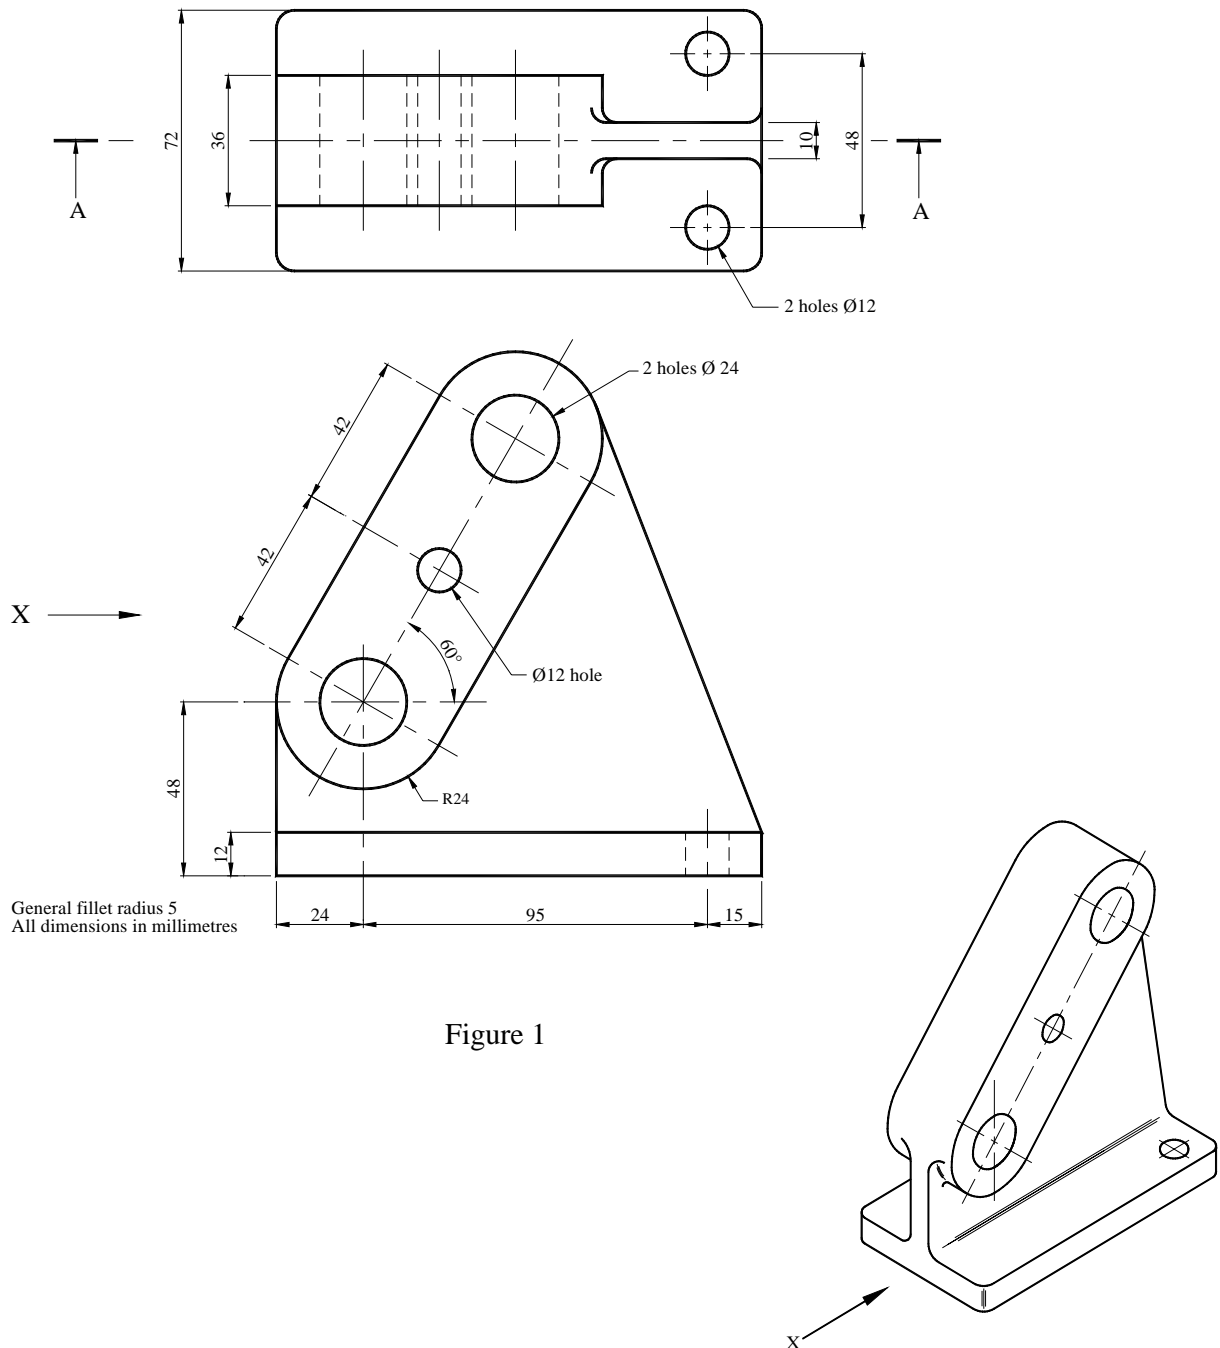

Figure 1
1. Figure 1 below shows an elevation and plan of a **RETAINING BRACKET**.